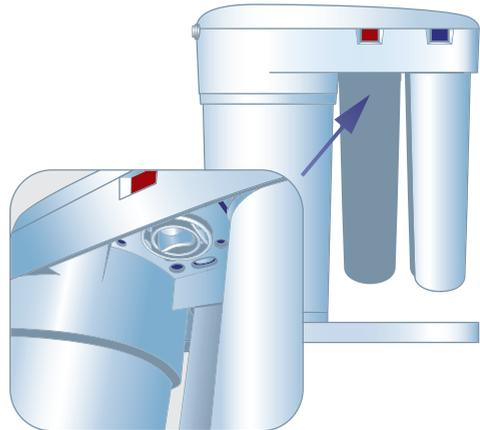

Figure 13. Installation of the membrane cartridge service plug
5. Install the service cap instead of the membrane cartridge (figure 1, position 10b), figure 13.